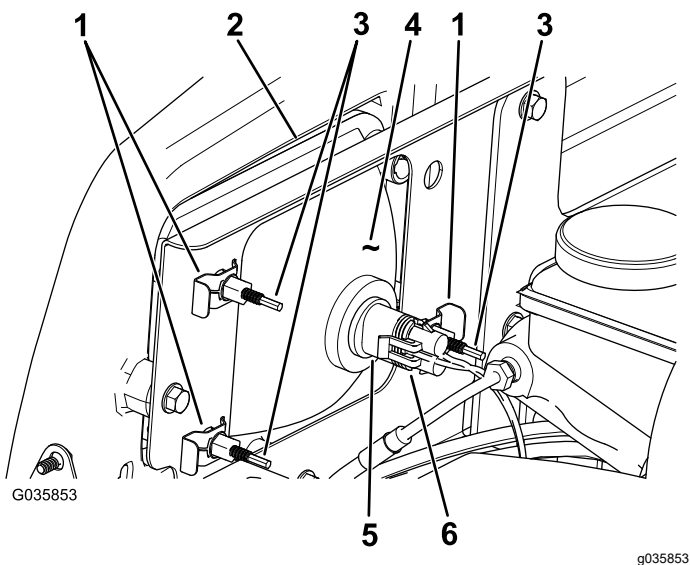

Figure 43
- Connect the electrical connector for the harness to the connector of the lamp assembly (Figure 43).
- Disconnect the electrical connector for the harness from the connector of the lamp assembly (Figure 43).
- At the back of the headlight assembly, rotate adjustment screws (Figure 43) to pivot the headlight assembly and align the position of the cast beam.
- Remove the speed clips that secure the headlight to the headlight bracket (Figure 43).
- Remove the headlight assembly by moving it forward through the opening in the front bumper (Figure 43).
- Install the new headlight through the opening in the bumper (Figure 43).